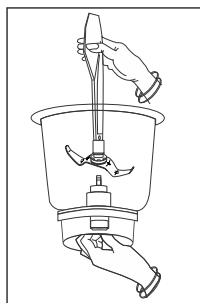

Fig. 7
- In order to clean the blades thoroughly, remove the blades by using the spatula (refer figure 7) to loosen the screw by twisting the dome nut on the blade clockwise, while holding the coupler from under the jar.